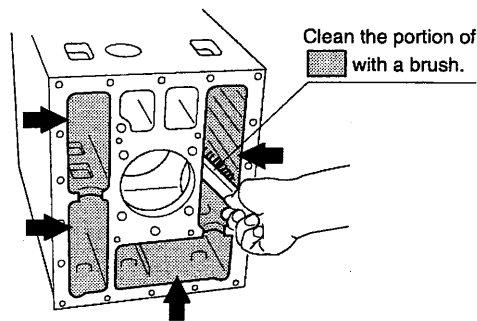

Fig. 34
- (1) Check if water dirt is stuck on the water jacket surface (both 1st and 2nd stages).
- (2) When water dirt is stuck, clean the portion shown in Fig. 34 with the brush.